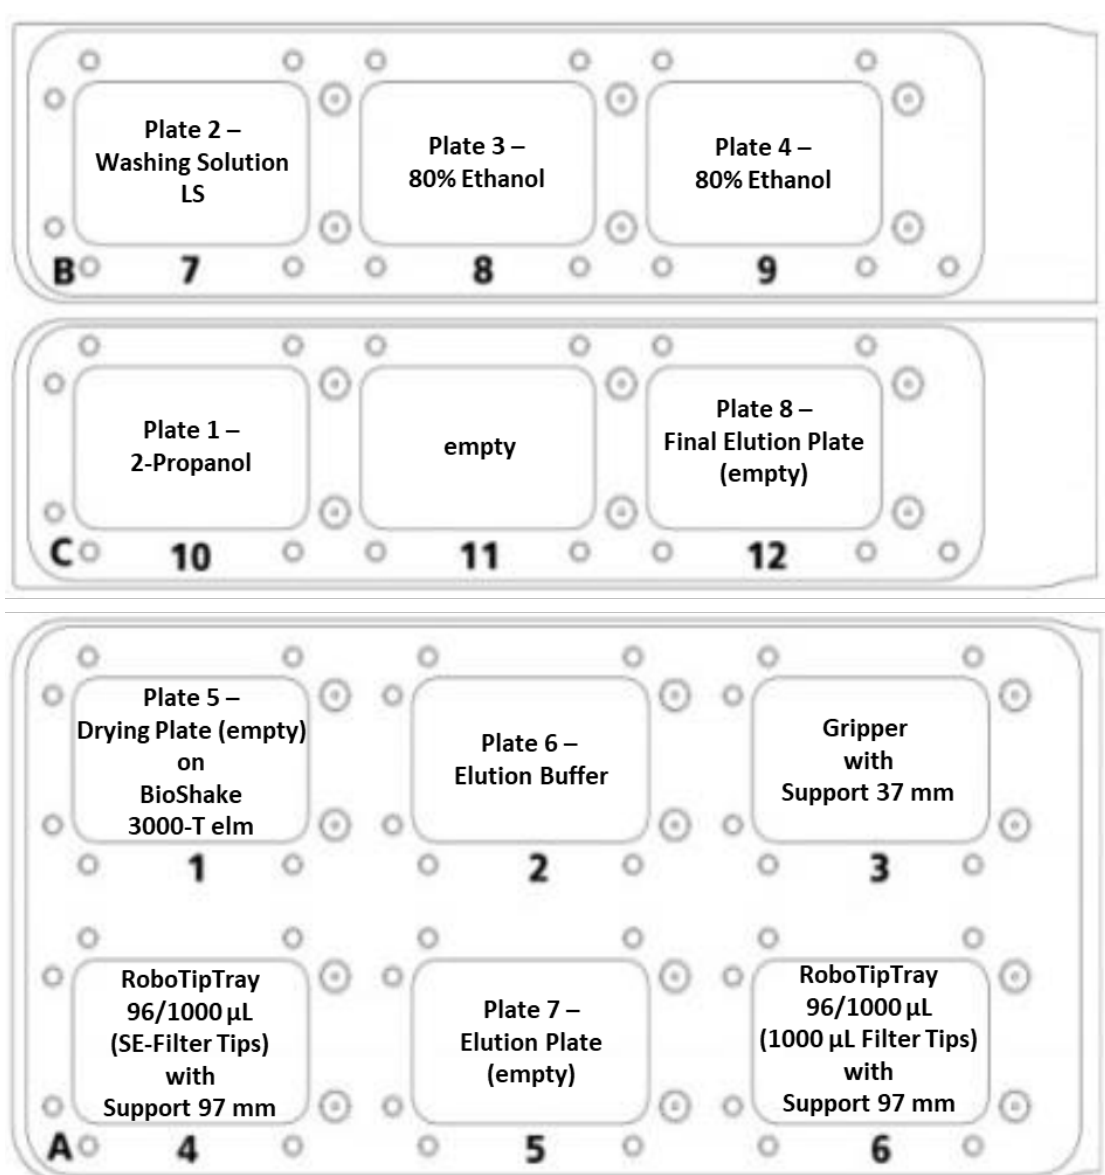

Figure 11: Deck layout for extraction
3. Place all required plates and accessories onto the CyBio FeliX decks according to **Figure 11**. As a final elution plate (**deck position 12**) multiple options are possible: